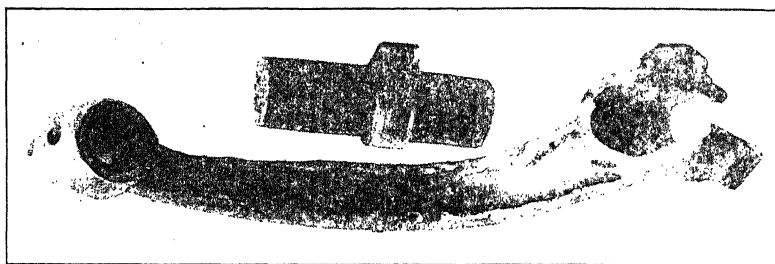

Fig. 13. Failure of a Rod Bearing Has Wrecked Many an Engine
**Connecting Rods.** Check the connecting-rod bearings to see whether they are broken in any wise or whether they have become loose. If loose, they should be replaced. If badly burned, Fig. 13, they should be replaced. Check the upper end bronze bushing, if such is used, to learn its condition and whether it will stand reaming when fitting oversize piston pins.